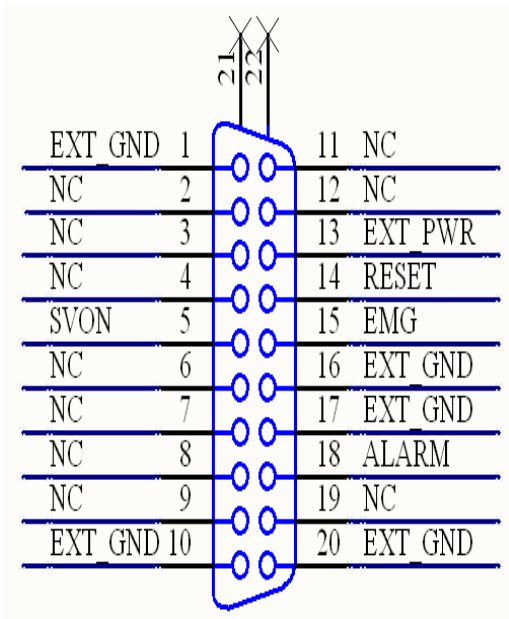

Fig B2-6 Pin definition for CN-XB, CN-YB
■ **CN-XB & CN-YB (Fig B2-6 connector for each AXIS)**
The connectors CN-XB and CN-YB are 20-pin connectors that enable you to connect to the CNB connector of your motor drivers. Fig.B2-6 shows the pin assignment for the 20-pin connector on the DN-8237-MB, and the Table B2-6 shows its I/O connector signal description.